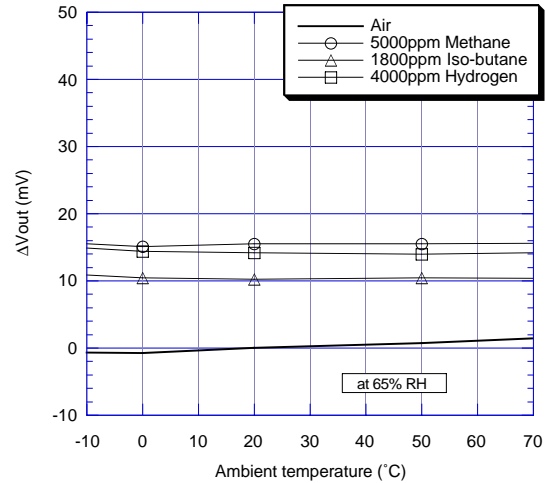

Fig. 5 - TGS6812 temperature dependency
Figure 5 shows the temperature dependency of TGS6812 at 65%RH in 10%LEL of methane, LP gas, and hydrogen. Since the temperature dependency of element (D) is compensated by element (C), the temperature dependency of sensor output in the range from -10° to +70°C is very small.